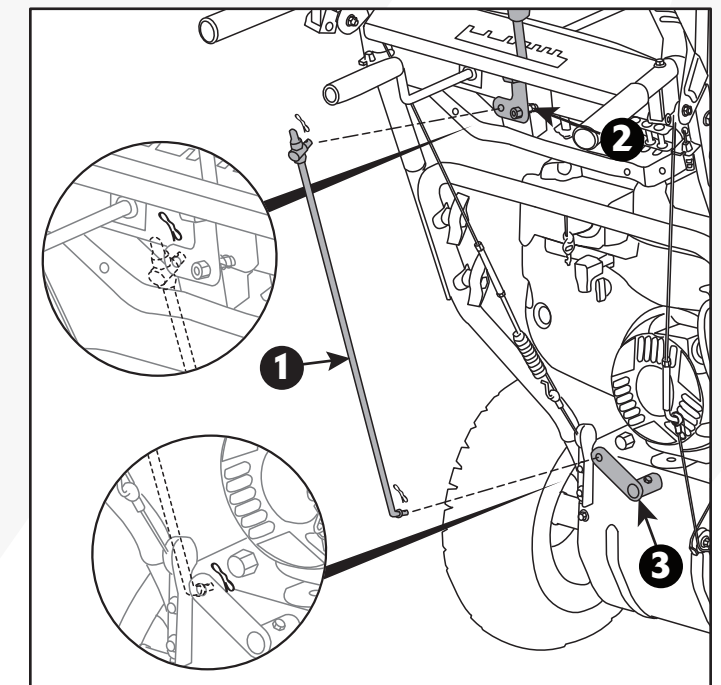

Fig. 4
1. Locate the connecting base on the back of the snow blower and speed adjustment handle under the control panel. (Fig. 4)
2. Connect the lower end of the speed control connecting lever to the connecting base with a cotter pin. (Fig. 4)
3. Connect the upper end of the speed control connecting lever to the speed adjustment handle with a cotter pin. (Fig. 4)